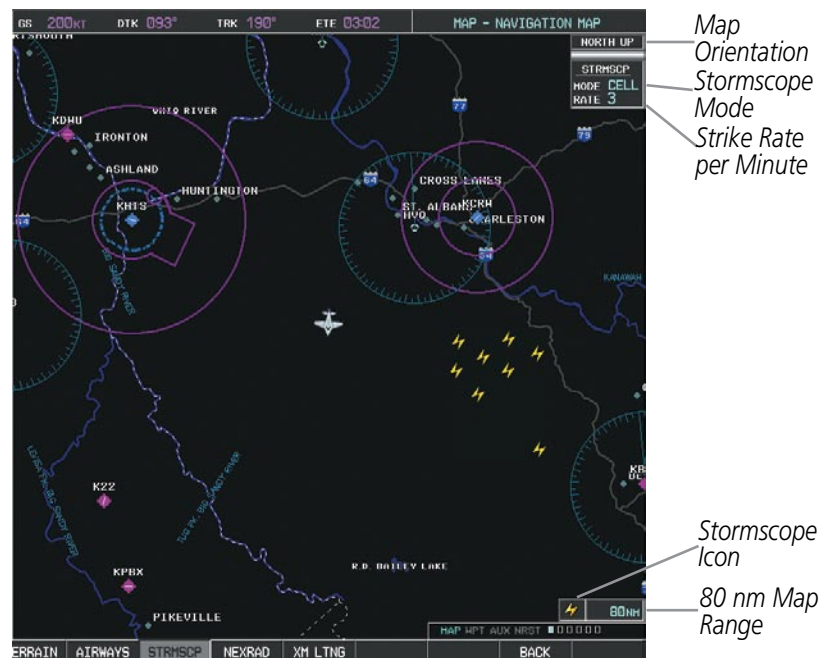

Figure 6-66 Navigation Map Page with Stormscope Lightning Data
- 7) Press the **FMS** Knob to return to the Navigation Map Page (Figure 6-66).
On the Navigation Map, cell mode identifies cells of lightning activity (Figure 6-66). Stormscope identifies clusters of electrical activity that indicate cells. Strike mode indicates the approximate location of lightning strikes.